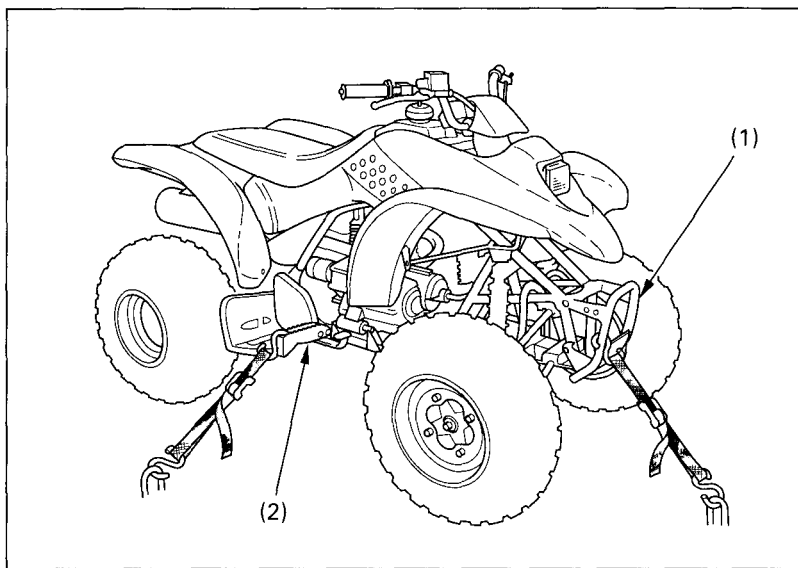

Fig. 4-34 Points to secure Sportrax with tie downs
3. Secure the vehicle with "tie downs" in the areas shown (Fig. 4-34). Suitable "tie downs" are available from your Honda dealer. Ordinary rope is not recommended because it can stretch under load.